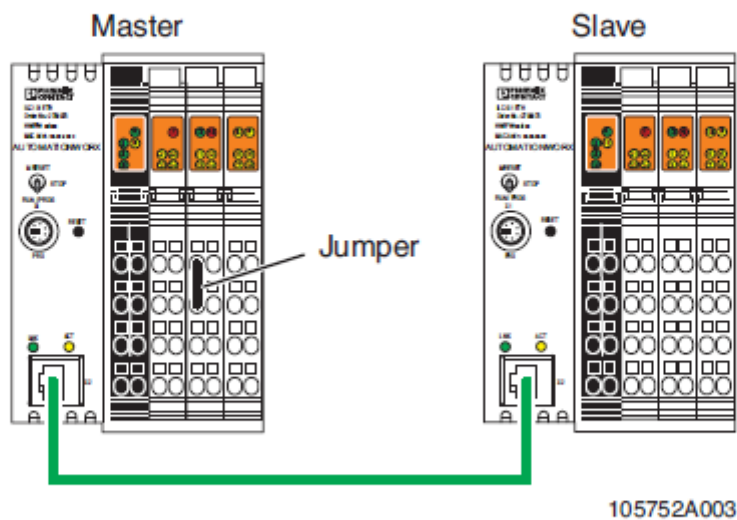

Figure 2-4 Configuring the Inline controllers as master and slave
- Configure an Inline controller as master. Wire 24 V DC to input I1 (terminal point 1.1 to 1.2). To do this, insert a wire jumper as shown in Figure 2-4.